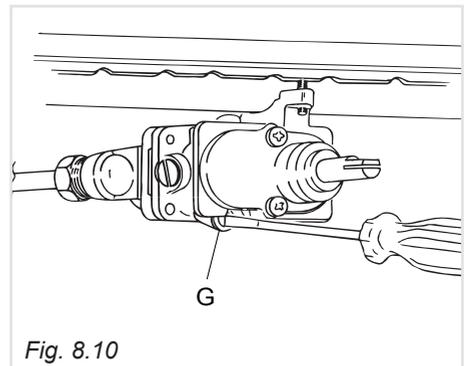

Fig. 8.10
- remove the knob and unscrew the by-pass screw “G” (fig. 8.10) about three times by passing a small flat screwdriver (Ø 3 mm blade, 100 mm length) through the panel opening;
- after having removed the knob again and being very careful not to turn the tap rod, slowly screw the by-pass screws “G” (fig. 8.10) until you obtain a flame of 3-4 mm in height.